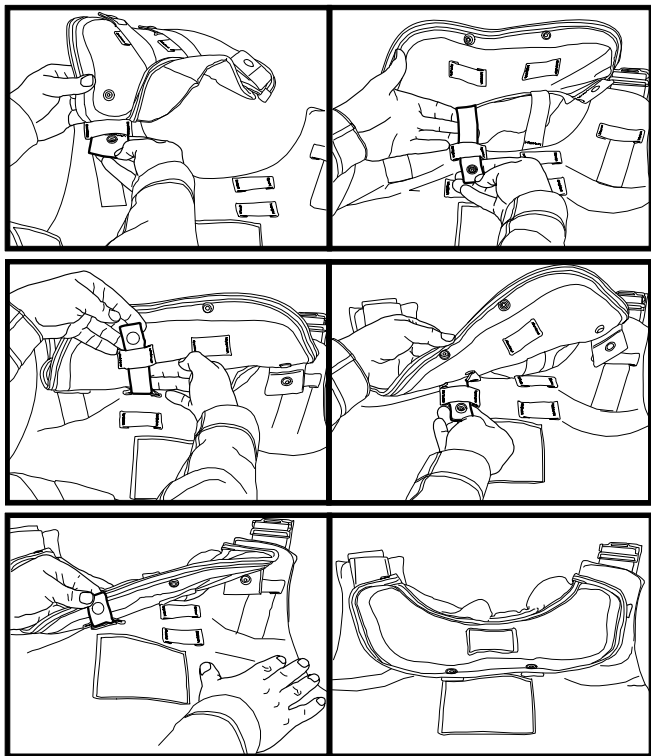

Figure 25. Attaching Yoke/Collar Assembly.
22. Attach yoke/collar assembly (Figure 25).